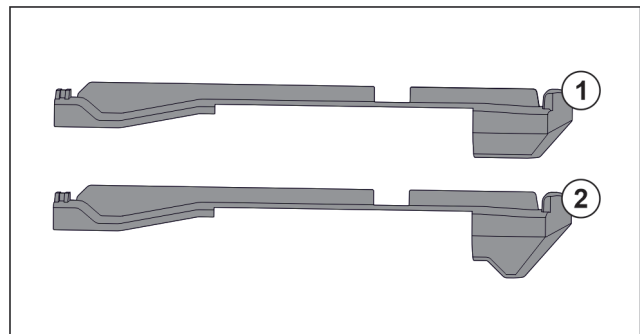

Fig. 141 Comparing attachments
There are two different attachments in the appliance. The attachment above the lowest drawer Fig. 141 (2) has a three-cornered edge. All other attachments Fig. 141 (1) have a straight edge.
- ▶ Fit attachment Fig. 141 (2) with the three-cornered edge above the lowest drawer.
- ▶ Fit attachment *Fig. 141 (1)* with straight edge in all other positions.